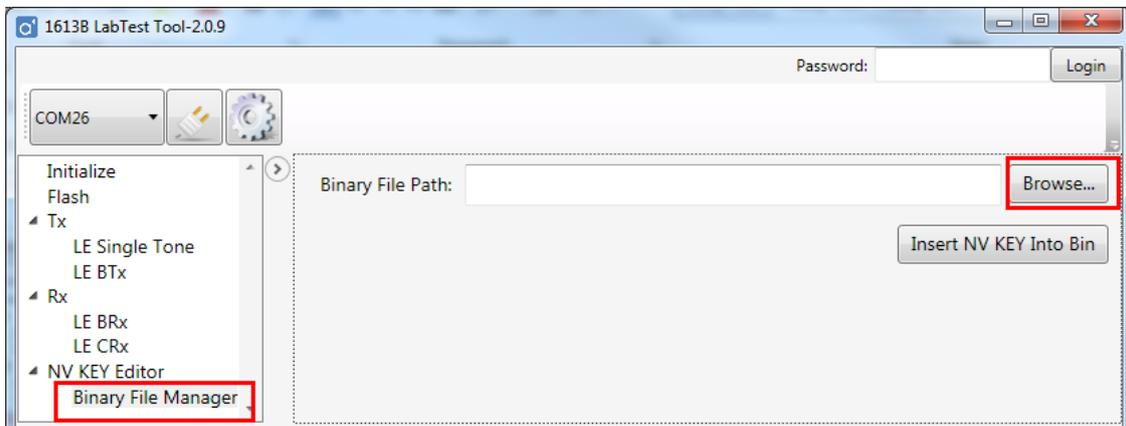

Figure 11. Loading Previous version of FW settings
- 1) Click the “Binary File Manager” button, as shown in Figure 11.
- 2) Click the “Browse...” button to select the location of FW, as shown in Figure 11.